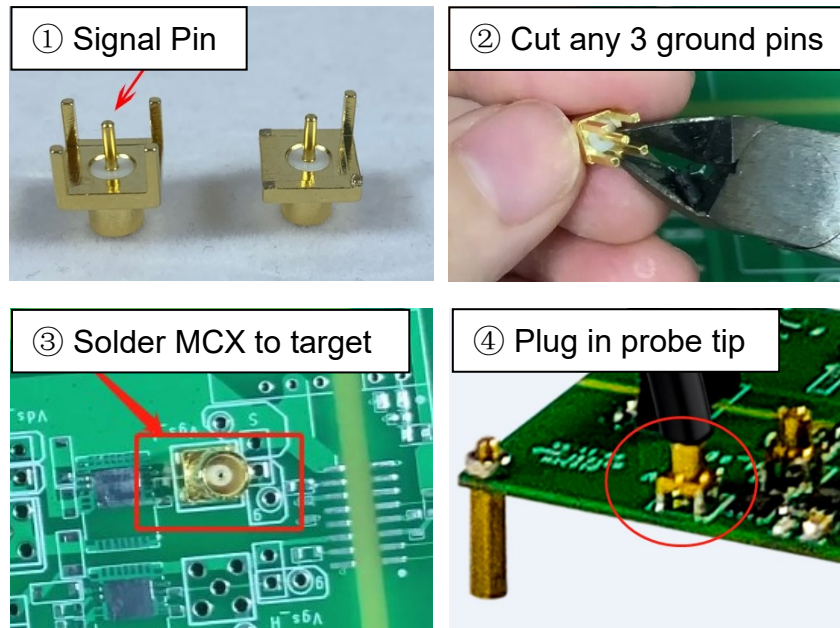

Figure 4.
- 3) For easy soldering, suggest to cut three of the four ground pins around the base (Figure 4), just keep one.